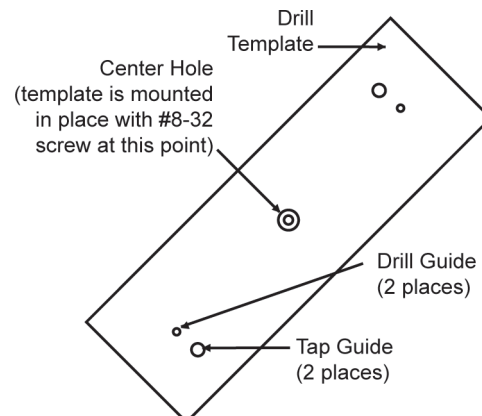

Figure 4-7. Drill and Tap Template.
2. See Figure 4-7. Starting with the location of Microcell™ A, fasten the drill template to the template mounting hole through the center hole, using the captive #8-32 socket head cap screw. Use a level to ensure correct orientation (45° angle to the horizontal).